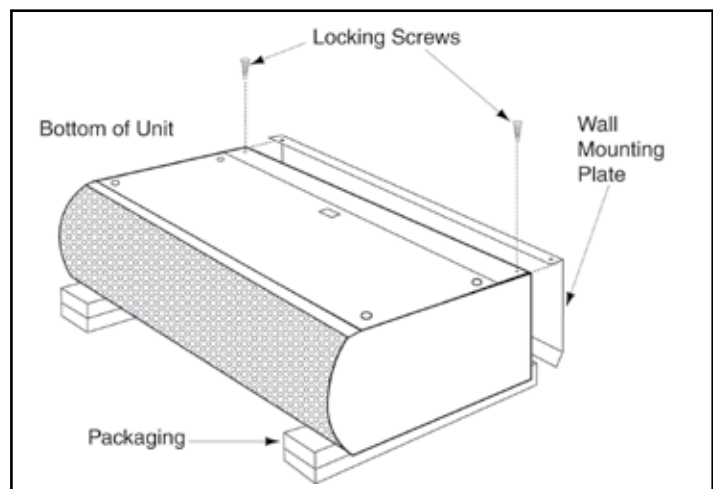

Figure 1
Carefully examine the carton(s) for damage. If the carton is damaged, immediately notify the shipping company. **Do not delay in filing claim.** If the air curtain(s) were shipped on wooden skids, remove protective wood and banding straps securing the carton(s) to the skid. Open the carton(s) and remove all protective packaging. If the unit will be wall mounted, remove and save the two (2) locking screws from the back corners and detach the wall mounting plate. **See Figure 1.**
If the unit will be wall mounted, remove and save the two (2) locking screws from the back corners and detach the wall mounting plate. **See Figure 1.**